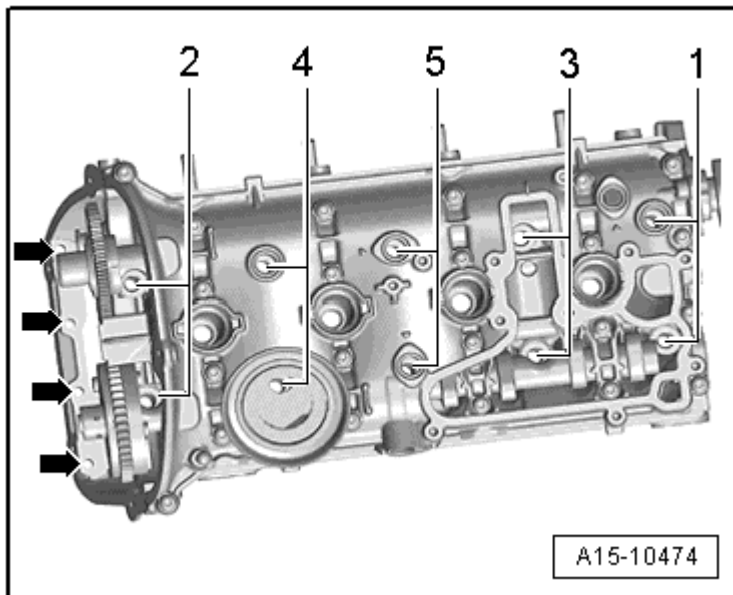

Fig. 3: Identifying Cylinder Head - Loosening Sequence
- Observe the sequence for loosening, refer to **Fig. 3**.